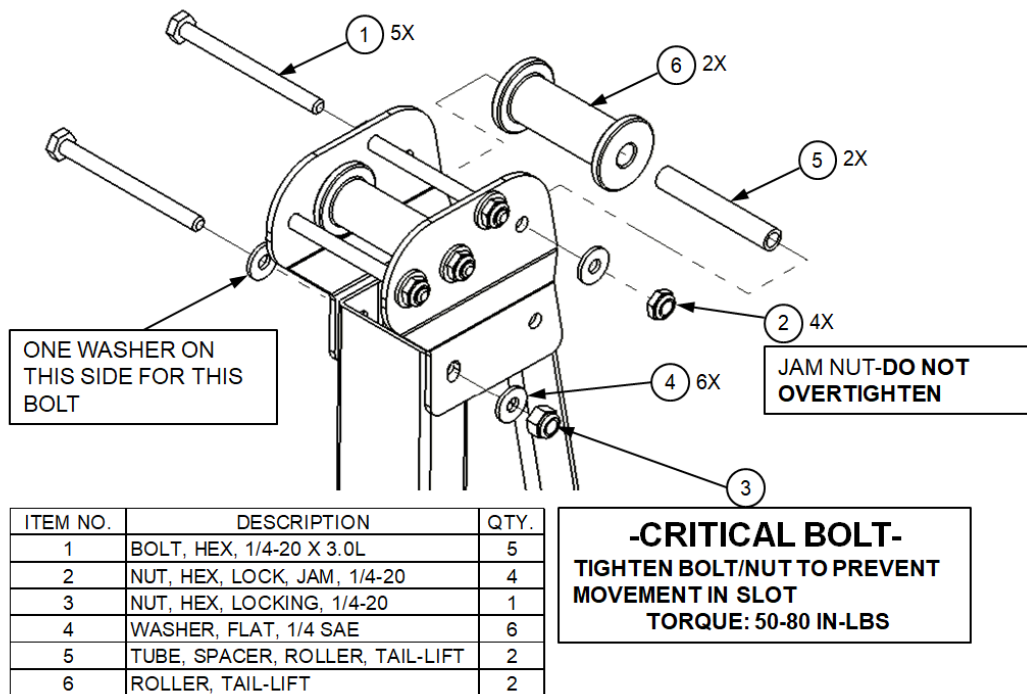

Figure 3
Upper Roller Mounting (Figure 3)
3. Insert the bolt (Item 1, Figure 3) in the slot/hole in the Brace Beam/Vertical Beam Assembly.